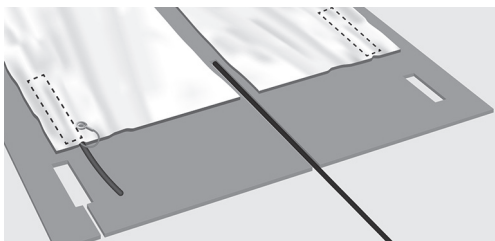

Fig. 8. Cutout in the underlayment
8. Once the heating mat or heating mats have been installed according to your drawing, it is time to make cutouts in the underlayment to make room for the joints in the heating mat (Fig. 8). In the start of the heating mat where the cold cable enters the heating mat, there is a bulge on the heating mat. Mark the placement of this on